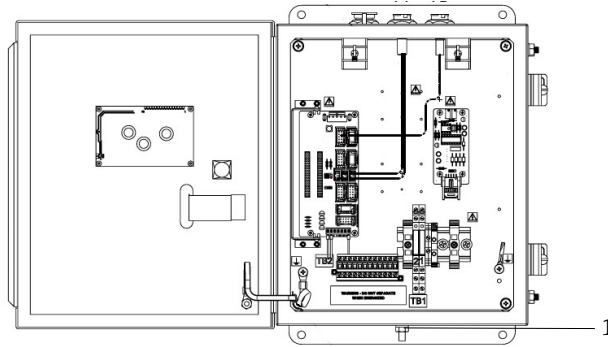
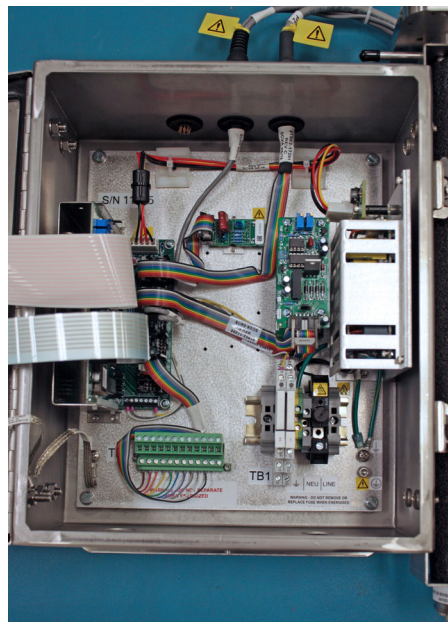

Figure 8: Chassis ground location (1)
Figure 9: Internal view of electronics enclosure (ss500/SS2000)
Refer to Figure 8 and Figure 9 for the protective and ground locations.
Pull the analyzer ground through the opening on the bottom left of the analyzer enclosure to the chassis ground connection. Refer to figure 8.
1. After the analyzer chassis ground has been connected, open the electronics enclosure door. Take care not to disturb the electrical assembly inside. Refer to Figure 8.